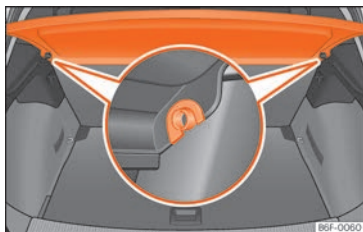

Fig. 109 In the luggage compartment: removing and fitting the shelf.
- Remove the rear shelf from the side supports »»» **Fig. 109** by pulling it upwards and then take it out.
- Insert the cover horizontally so that the "recess" fits onto the axis of the supports »»» **Fig. 109** and press down until it engages.